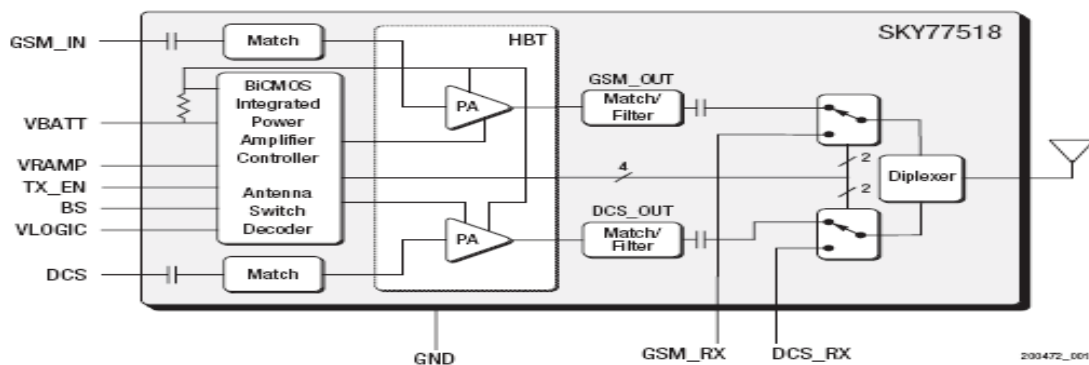

Figure 1. Functional Block Diagram
The SKY77518 is a transmit and receive front-end module (FEM) with Integrated Power Amplifier Control (iPAC™) for dual-band cellular handsets comprising GSM900 and DCS1800 operation. Designed in a low profile, compact form factor, the SKY77518 offers a complete Transmit VCO-to-Antenna and Antenna-to-Receive SAW filter solution. The FEM also supports Class 12 General Packet Radio Service (GPRS) multi-slot operation. The module consists of a GSM900 PA block and a DCS1800 PA block, impedance-matching circuitry for 50 Ω input and output impedances, TX harmonics filtering, high linearity and low insertion loss PHEMT RF switches, diplexer and a Power Amplifier Control (PAC) block with internal current sense resistor. A custom BiCMOS integrated circuit provides the internal PAC function and decoder circuitry to control the RF switches. The two Heterojunction Bipolar Transistor (HBT) PA blocks are fabricated onto a single Gallium Arsenide (GaAs) die. One PA block supports the GSM900 band and the other PA block supports the DCS1800 band. Both PA blocks share common power supply pads to distribute current. The output of each PA block and the outputs to the two receive pads are connected to the antenna pad through PHEMT RF switches and a diplexer. The GaAs die, PHEMT die, Silicon (Si) die and passive components are mounted on a multi-layer laminate substrate. The assembly is encapsulated with plastic overmold. Band selection and control of transmit and receive modes are performed using two external control pads. Refer to the functional block diagram in Figure 1 below. The band select pad (BS) selects between GSM and DCS modes of operation. The transmit enable (TX_EN) pad controls receive or transmit mode of the respective RF switch (TX = logic 1). Proper timing between transmit enable (TX_EN) and Analog Power Control (VRAMP) allows for high isolation between the antenna and TX-VCO while the VCO is being tuned prior to the transmit burst. The SKY77518 is compatible with logic levels from 1.2 V to VCC for BS and TX_EN pads, depending on the level applied to the VLOGIC pad. This feature provides additional flexibility for the designer in the selection of FEM interface control logic.